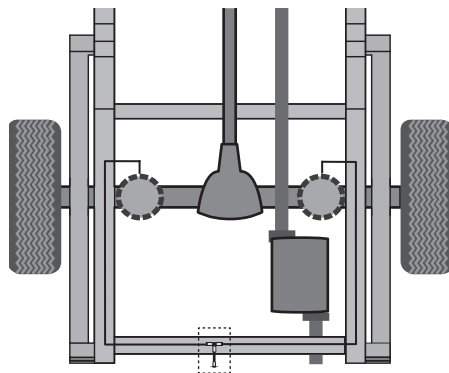
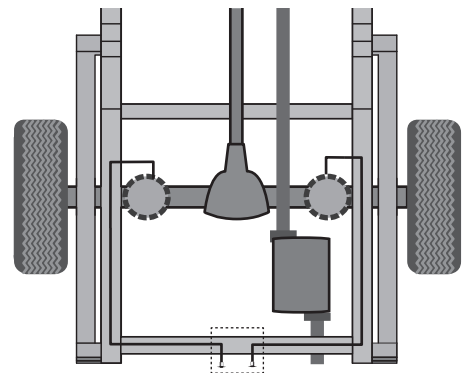

fig. 6
fig. 7
A single-path air line installation is recommended for vehicles that typically have even weight distribution (Fig. 6). If weight in the vehicle varies from side to side and unequal pressures are needed to level the load, use a dual-path installation. For dual-path air line installations, eliminate the tee fitting (J) and route separate air lines for both air springs (Fig. 7).